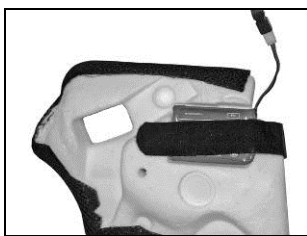

Fig. 24
- Position the battery in the right polystyrene cheek pad housing and secure it using the Velcro ribbon (Fig. 24).